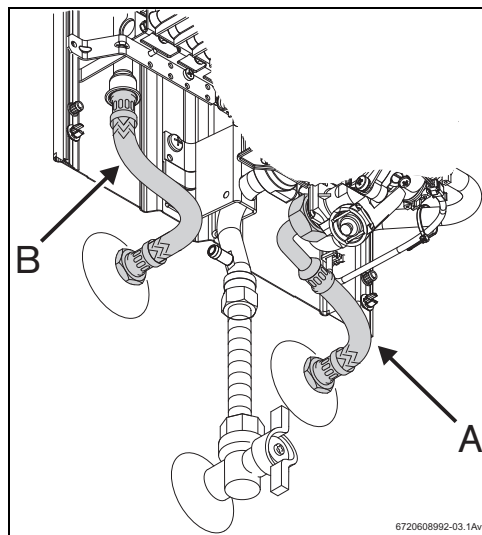

Fig. 5 Water connection
- Identify the cold water pipe (Fig. 5, [A]) and the hot water pipe (Fig. 5, [B]), so as to avoid any possible cross-connection.